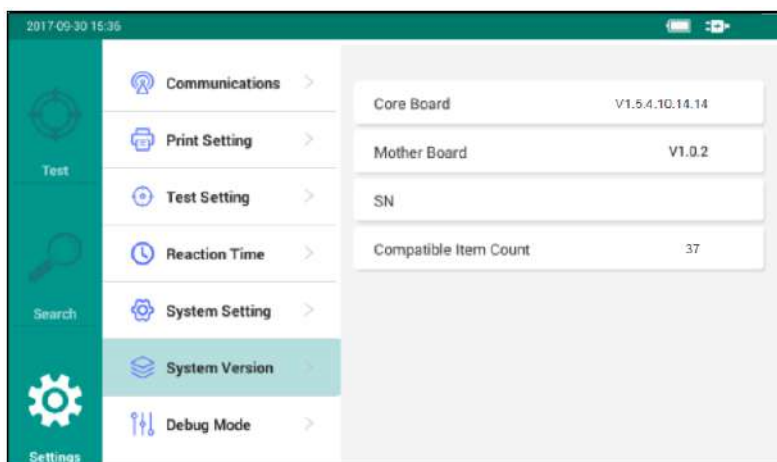

Fig.4-7 System Version
In this interface, user can check the version of analyzer, serial number (SN) and the number of compatible assays (Fig.4-7).